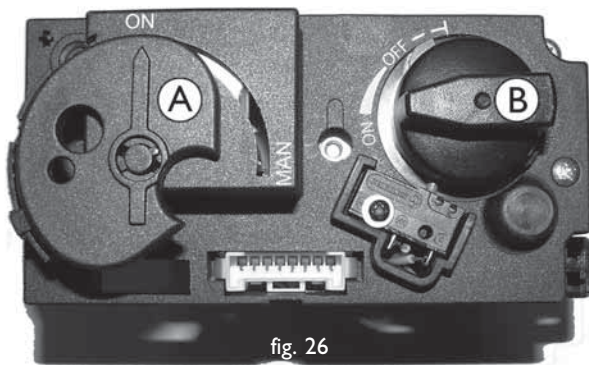

fig. 26
- During the ignition process, you are not allowed to operate control button B on the gas control manually (see fig. 26).
- Set button A on the gas control to ON (button B is controlled automatically) (see fig. 26). The gas control is located in the control box.